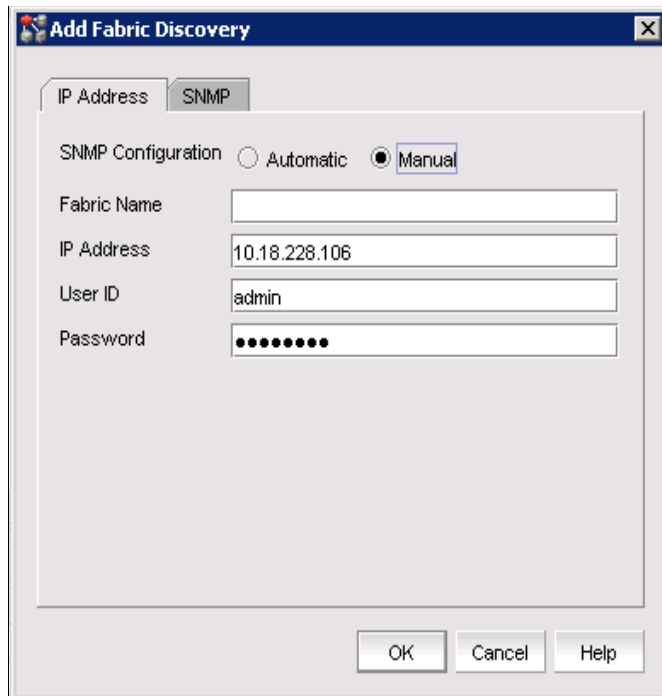

Figure 3-37 SNMP window
3. To configure the SNMP setting, set the SNMP Configuration to **Manual** and click the **SNMP** tab, as shown in Figure 3-37 on page 113.